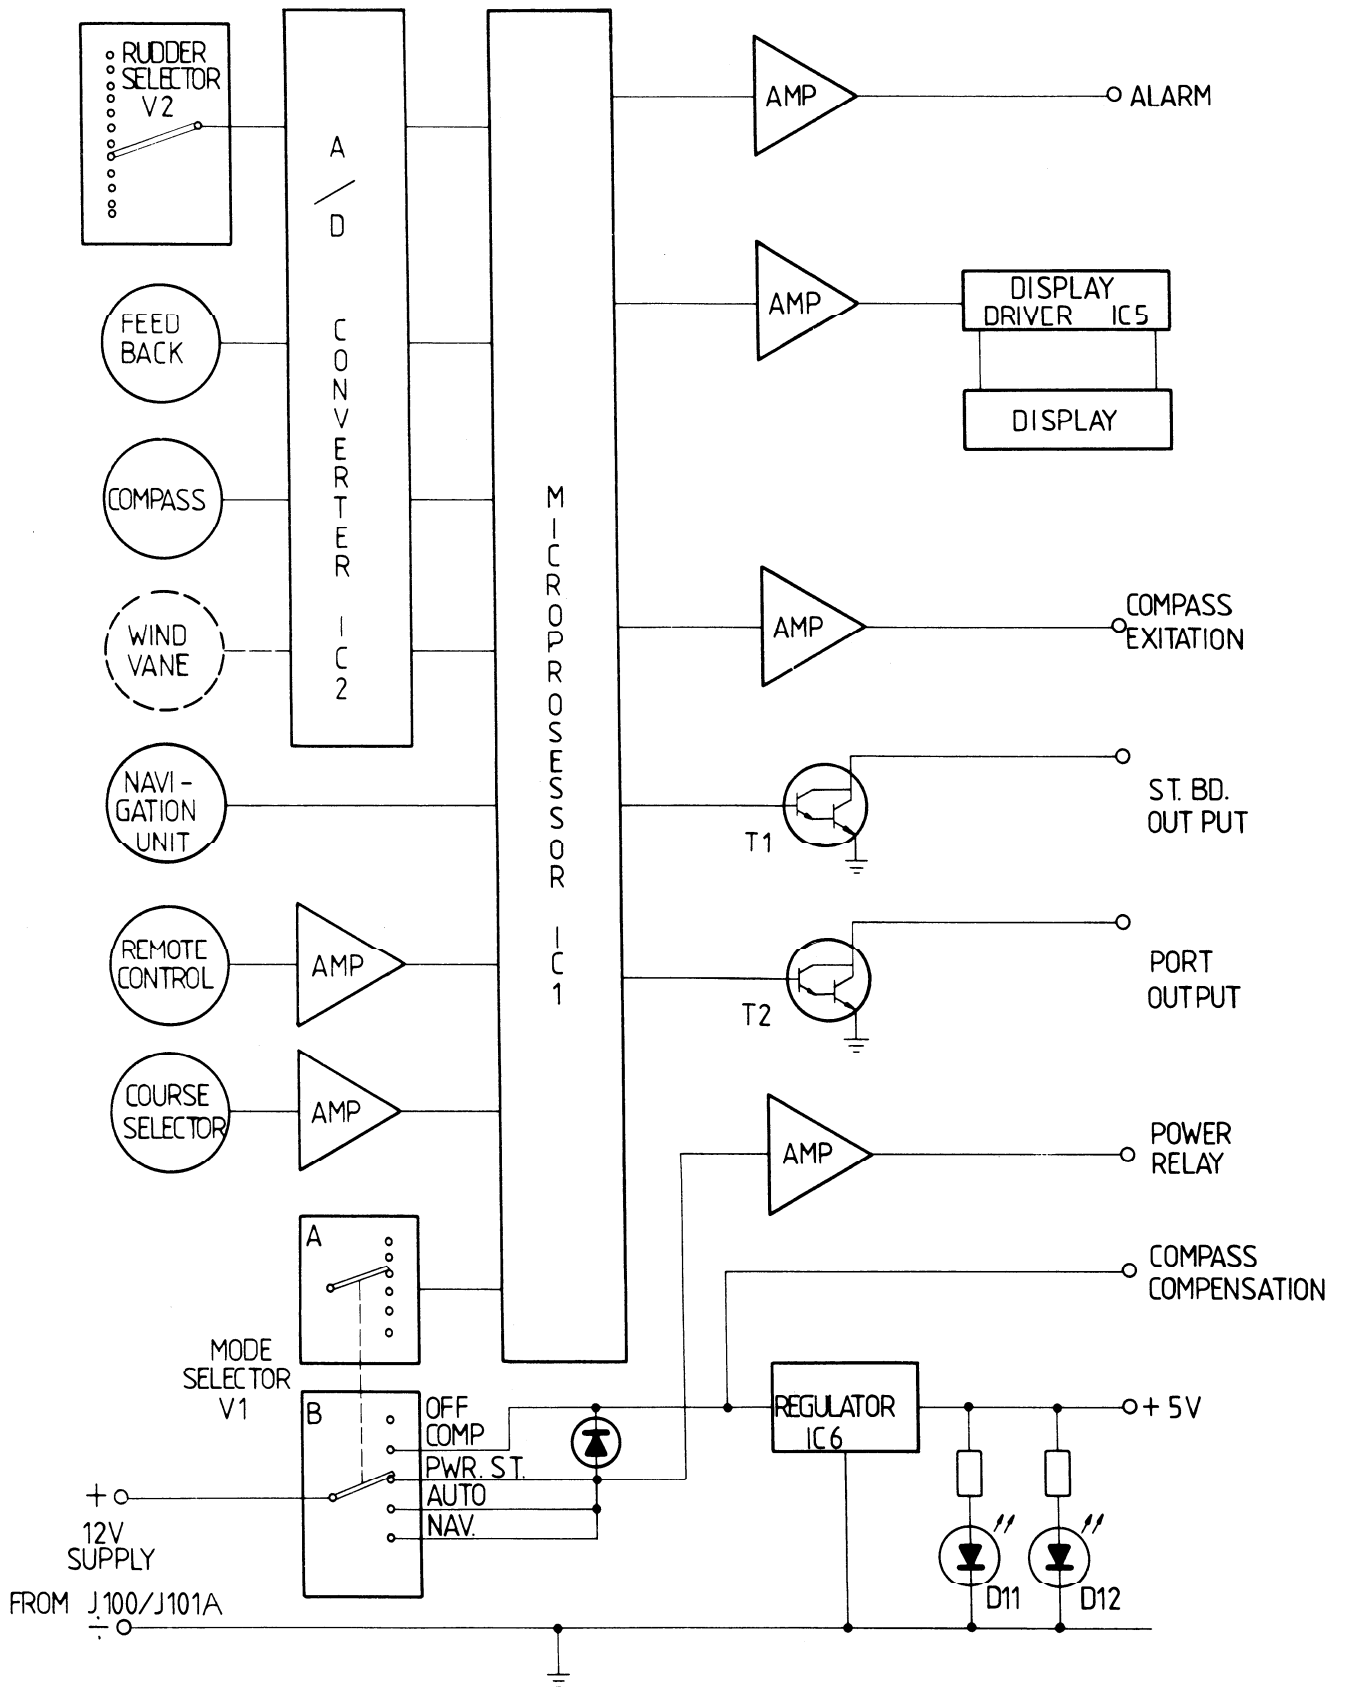

Fig. 3.1.
3.2. AP200/AP200DL System (Ref. fig. 3.1.)
3.2. AP200/AP200DL system (ref. fig. 3.1)